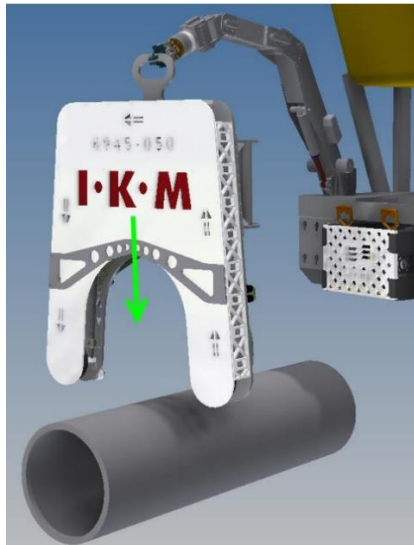

Figure 4.2: Cut on horizontally oriented cutting object
3. Place the on top of the cutting object as shown in Figure 4.2.